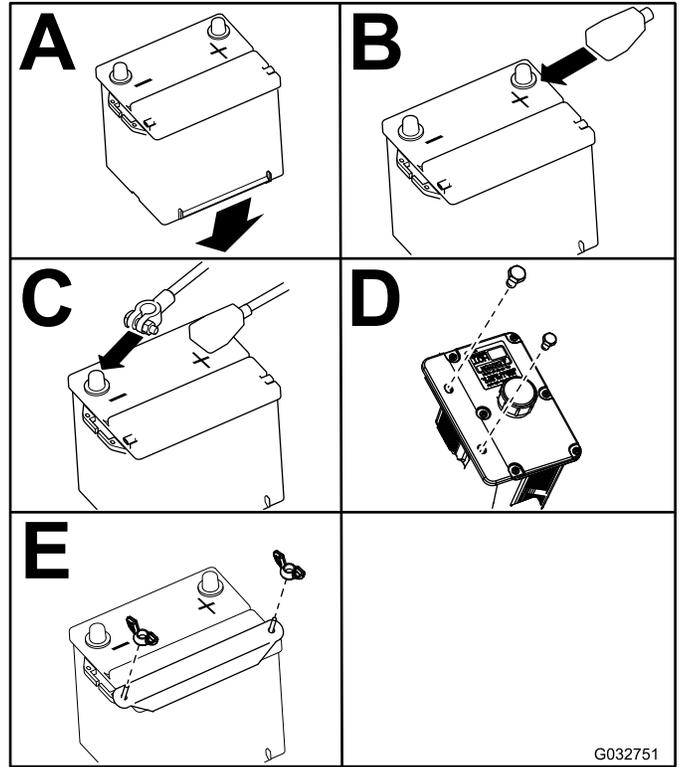

Figure 59
**Note:** Position the battery in the tray with the terminal posts opposite from the hydraulic tank (Figure 59).